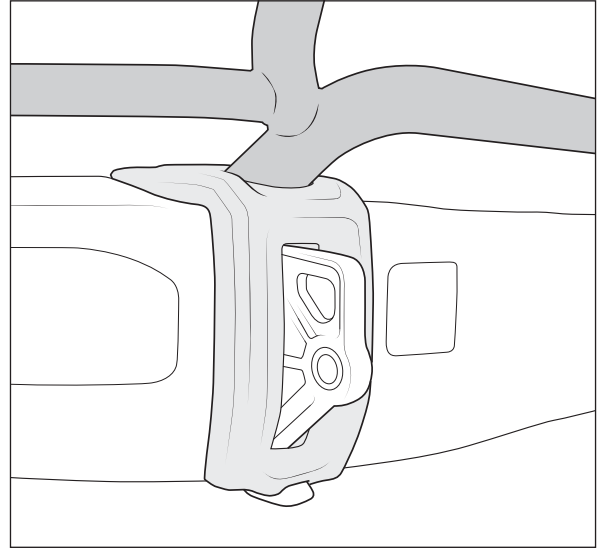

Figure 23
2. Slide the second bezel on the brush guard then position together in place on the bumper (fig. 23).